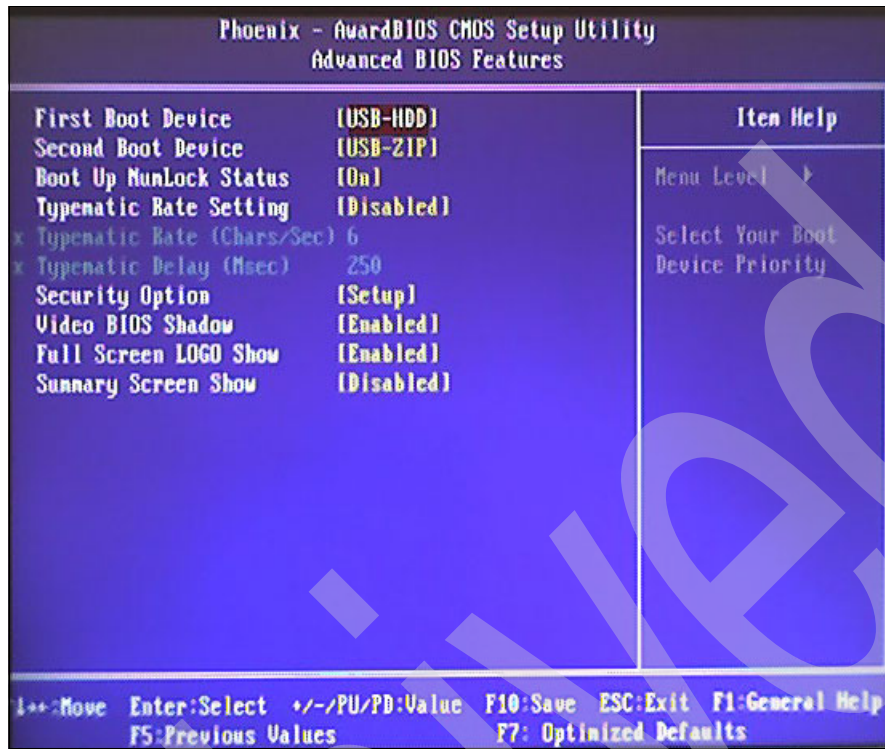

Figure 4-43 Advanced BIOS Features screen
9. This takes you to the Advanced BIOS Features window (Figure 4-43).